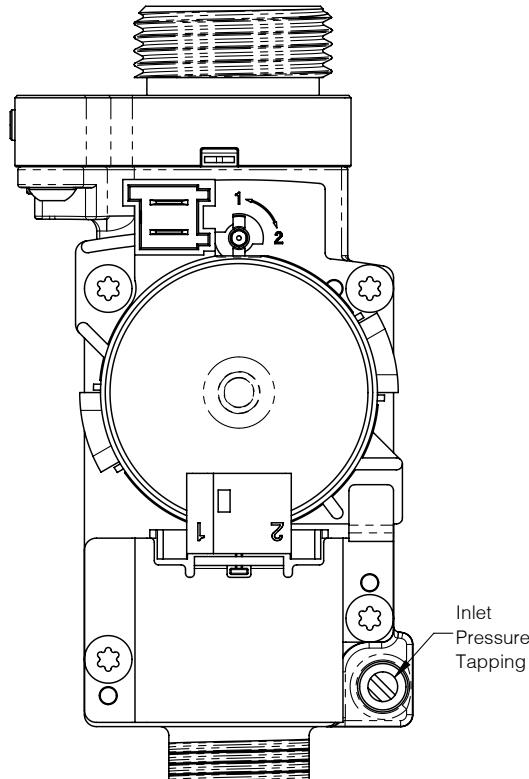

Figure 15-9: Gas Valve Inlet Pressure Tap
9. Check inlet gas pressure (Figure 15-9). Verify inlet gas pressure is between upper and lower limits shown on rating label with all gas appliances on and off. Be sure to close this pressure tapping when gas pressure check is complete.